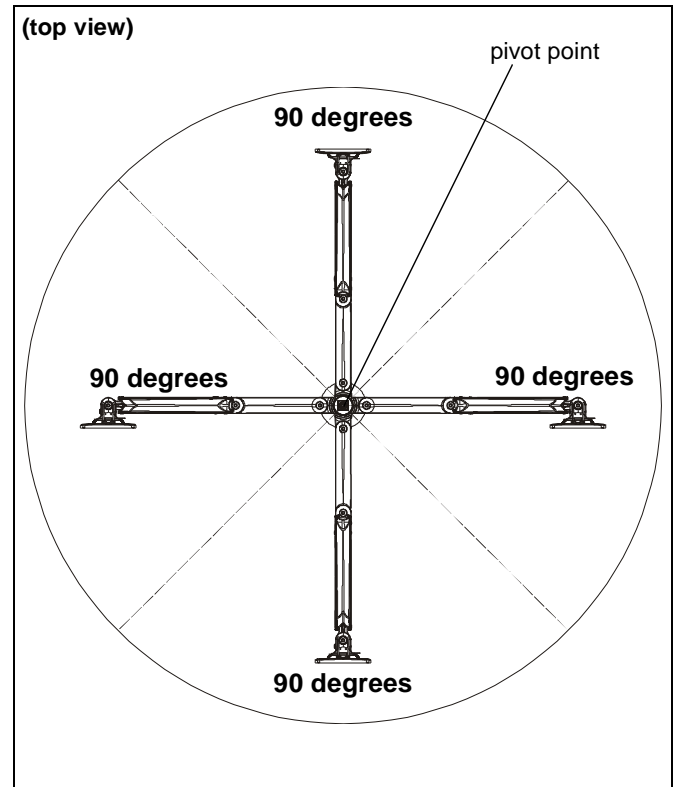

Figure 7
1. Adjust arm angles as desired within a 90 degree range. (See Figure 7)